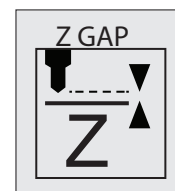

Fig. 106
- Select the 'Z-Gap' function on the touchscreen. (Fig. 106)